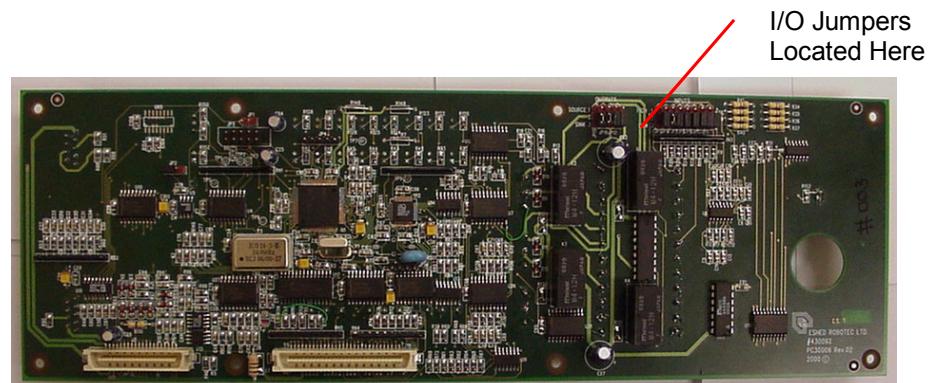

Figure 6-1: Location of Jumpers on I/O Card
3. Locate the jumpers on the upper left corner of the I/O card as shown in Figure 6-1.